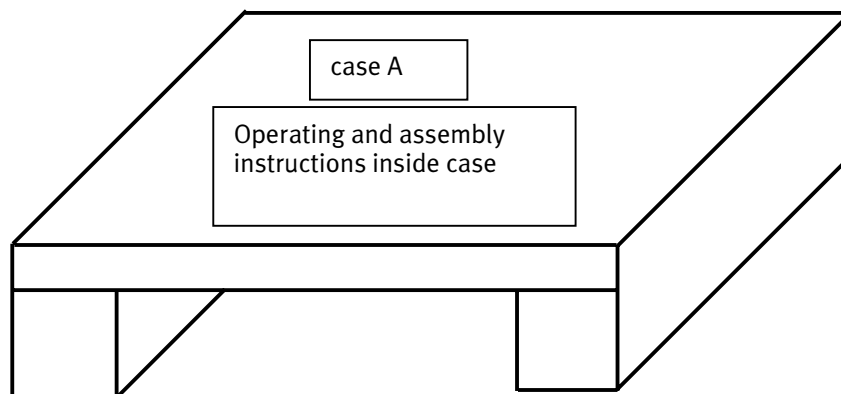

Figure 2
- Place case “A”, and for Model 2080 case “C”, within reach (see Figure 2).